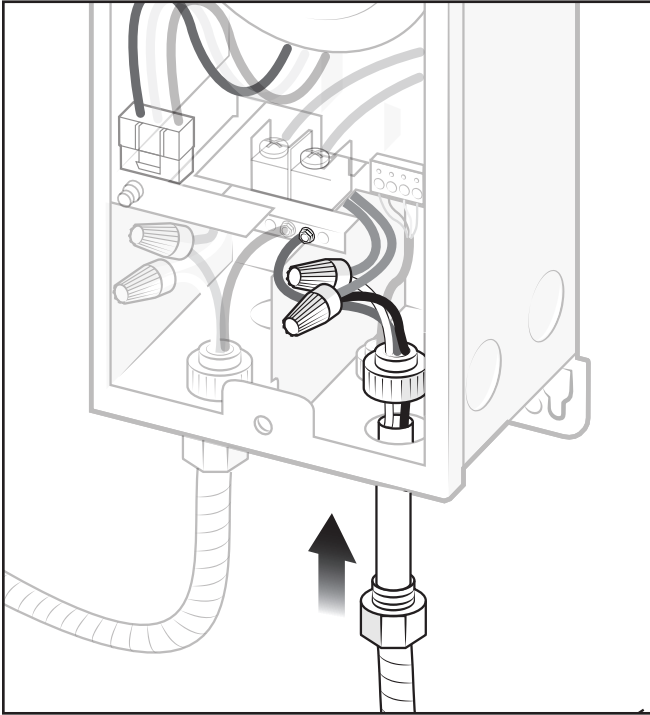

Figure 5. Connect Low Voltage Wires
2. Thread a conduit connector into the knockout hole on the Light Controller, see Figure 5.
3. Feed low voltage light cord through the conduit and conduit connector on the Light Controller, see Figure 5.
4. Use wire nuts to connect the low voltage light wires, white wire connects to orange wire and black wire connects to orange wire, see Figure 5. If installing a niched light, connect the green ground wire to the terminal bar in the controller